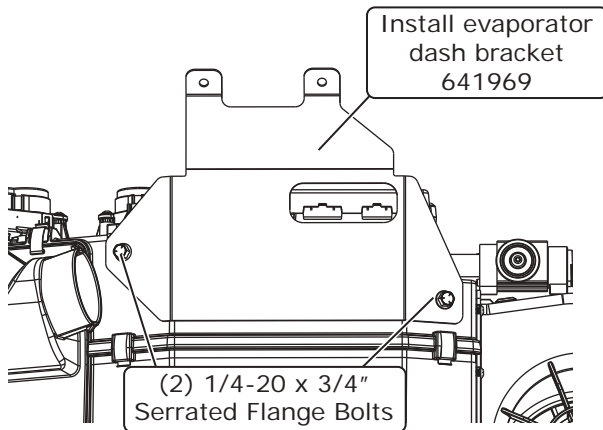

Figure 4
- Using (2) 1/4-20 x 3/4" serrated flange bolts, install the evaporator dash bracket (See Figure 4, below).